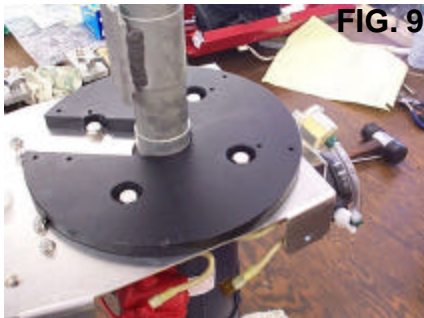
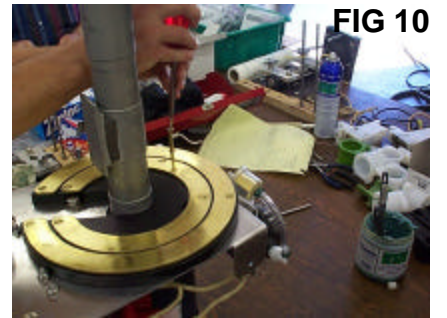

FIG. 9
FIG. 10
5. Clean and reinstall slip ring mount (fig. 9). Install new slip rings with hardware provided in kit (fig. 10). Screws press fit through rings and mount, use screwdriver if needed.